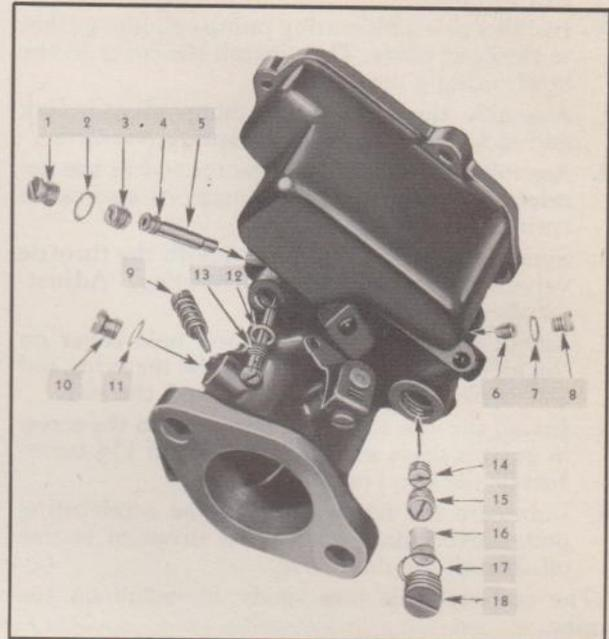

Fig. 11—Down-draft Carburetor Valves and Jets
4. Assemble the copper gasket on the main nozzle, (4) Fig. 11. Hold the carburetor with the air horn down, line up the flat part of the "D" section on the nozzle with that in the primary venturi and drop the nozzle (5) into the opening. Install the nozzle screw plug (3) and tighten it securely. Tighten the three air horn screws. Install the main nozzle passage plug (1) using a new copper gasket (2).
5. Install the low speed jet (13) and gasket (12) in the carburetor body, then again remove the jet and check the bearing on the top end of the jet. If there is a complete bearing around the top of the jet indicating a full seat, it may be
6. Install the outlet and inlet check valves (14) and (15), Fig. 11, in the carburetor body. Then install the screen (16), passage plug (18) and gasket (17).
7. Install the accelerating pump jet (6), plug (8) and gasket (7).